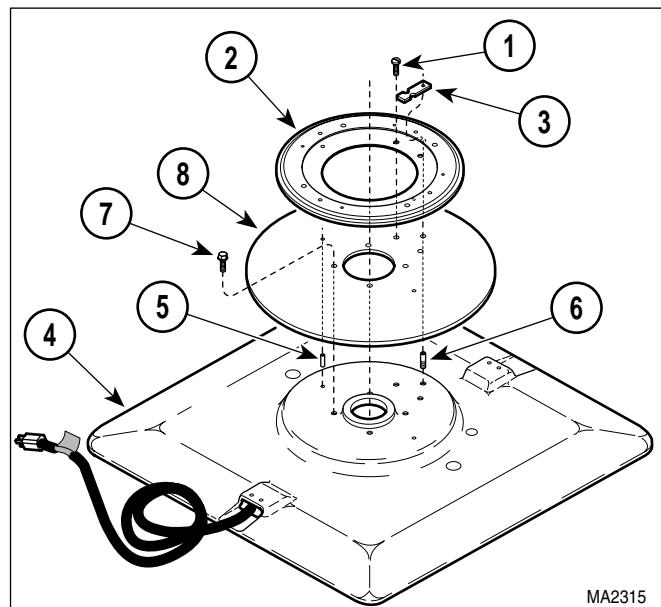

Figure 4-40. Table Rotation Bearing Removal / Installation
- (19) Remove rotational base (3), thin bearing washer (9), thrust bearing (10), and thick bearing washer (11) from platform base weldment (6).
- (20) Remove two screws (1, Figure 4-40).
- (21) Remove table rotation bearing (2) and rotation stop plate (3) from rotational base (4), by pulling table rotation bearing straight up and off of two groove pins (5).
- (22) If damaged, remove stop plate post (6) from rotational base (4).
- (1) If removed, install groove pins (5, Figure 4-40) in rotational base (4).
- (2) If removed, install stop disc (8) on rotational base (4) and secure with four screws (7).
- (3) If removed, coat threads of stop plate post (6) with removable threadlocking adhesive (Loctite 242). Install stop plate post (6) in rotational base (4).
- (4) Coat bearings of table rotation bearing (2) with high temperature grease.